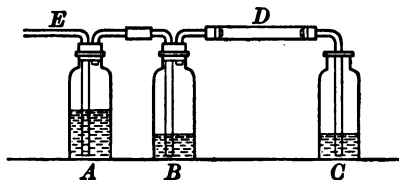

FIG. 29
*e.* Prepare an apparatus according to Fig. 29. The bottle *A* contains a solution of sodium hydroxide, while *B* and *C* contain a solution of calcium hydroxide (limewater). The hard-glass tube *D* contains one or two small pieces of charcoal. Charge your oxygen generator as in § 15 and connect the rubber delivery tube with *E*. Now pass a *slow* current of oxygen through the apparatus, at the same time heating the charcoal in *D* until it just begins to glow. Describe the results. What do they prove? Why pass the oxygen through the solutions in *A* and *B*? What reactions take place in *D* and *C* (R)?